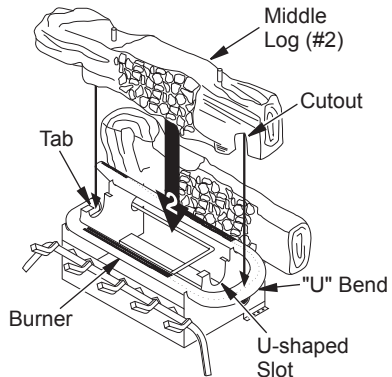

Figure 26 - Installing Middle Log (#2)
2. Place base of middle log (#2) in U-shaped slots of grate base in front of back log. Cutout on right of middle log should fit over burner (see Figure 26). Make sure front of middle log is resting on tabs of grate base and cutout area is centered over burner "U" bend.